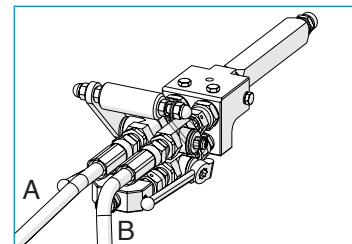

Fig. 13 Connecting the mixing unit
2. Connect the material hoses to the mixing unit see Fig. 13.